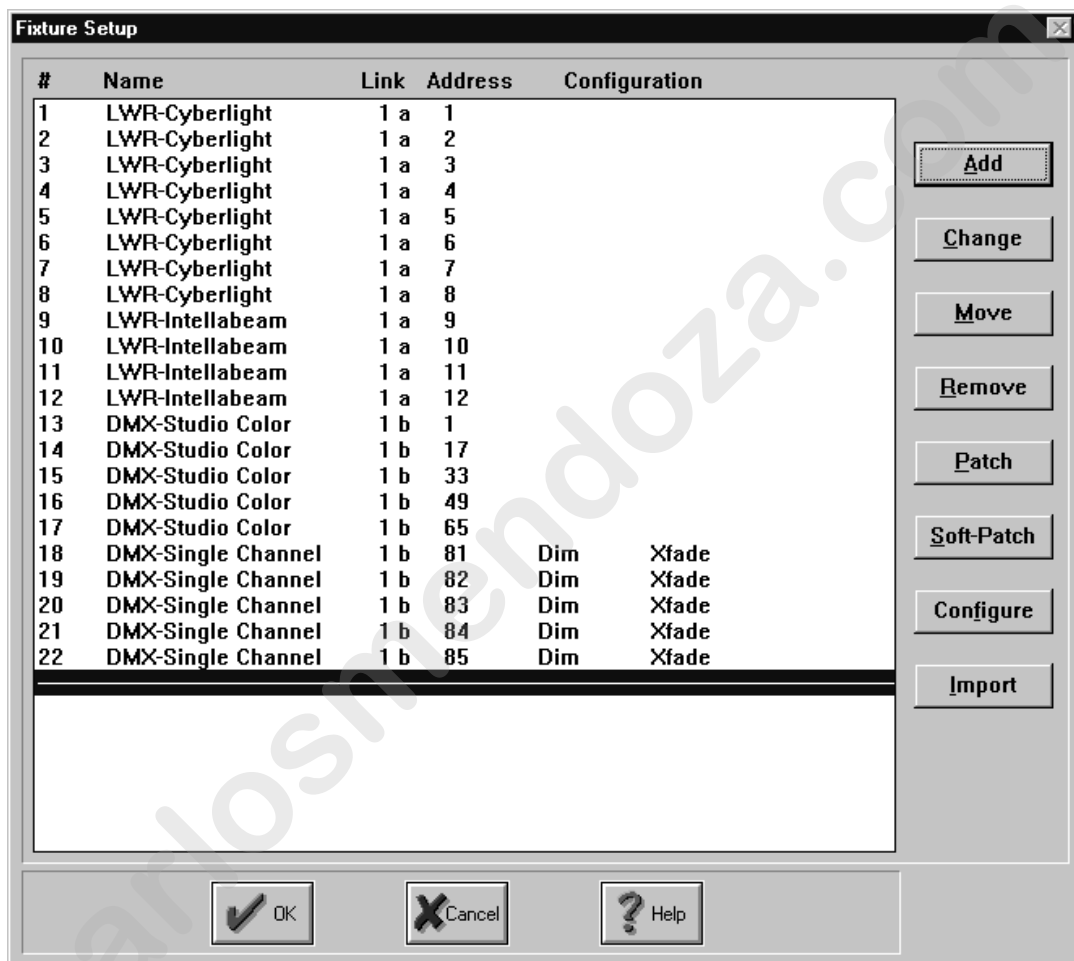

Figure 4.5. Fixture Setup Sample Dialogue Box
- If you need to insert fixtures between existing fixtures, simply select the fixture you want placed after the new fixtures and perform the above steps. Click **Finished** when all fixtures have been added. The **Fixture Setup** dialogue box shows the added fixtures. Fixtures are automatically patched in the order they are added. Figure 4.5 shows a sample **Fixture Setup** dialogue box.